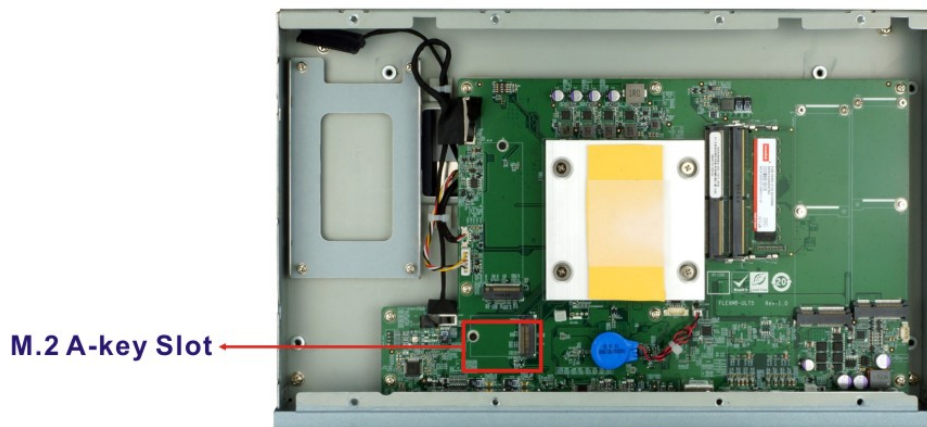

Figure 3-13: M.2 A-key Slot Location
Step 3: Locate the M.2 A-key slot (Figure 3-13).